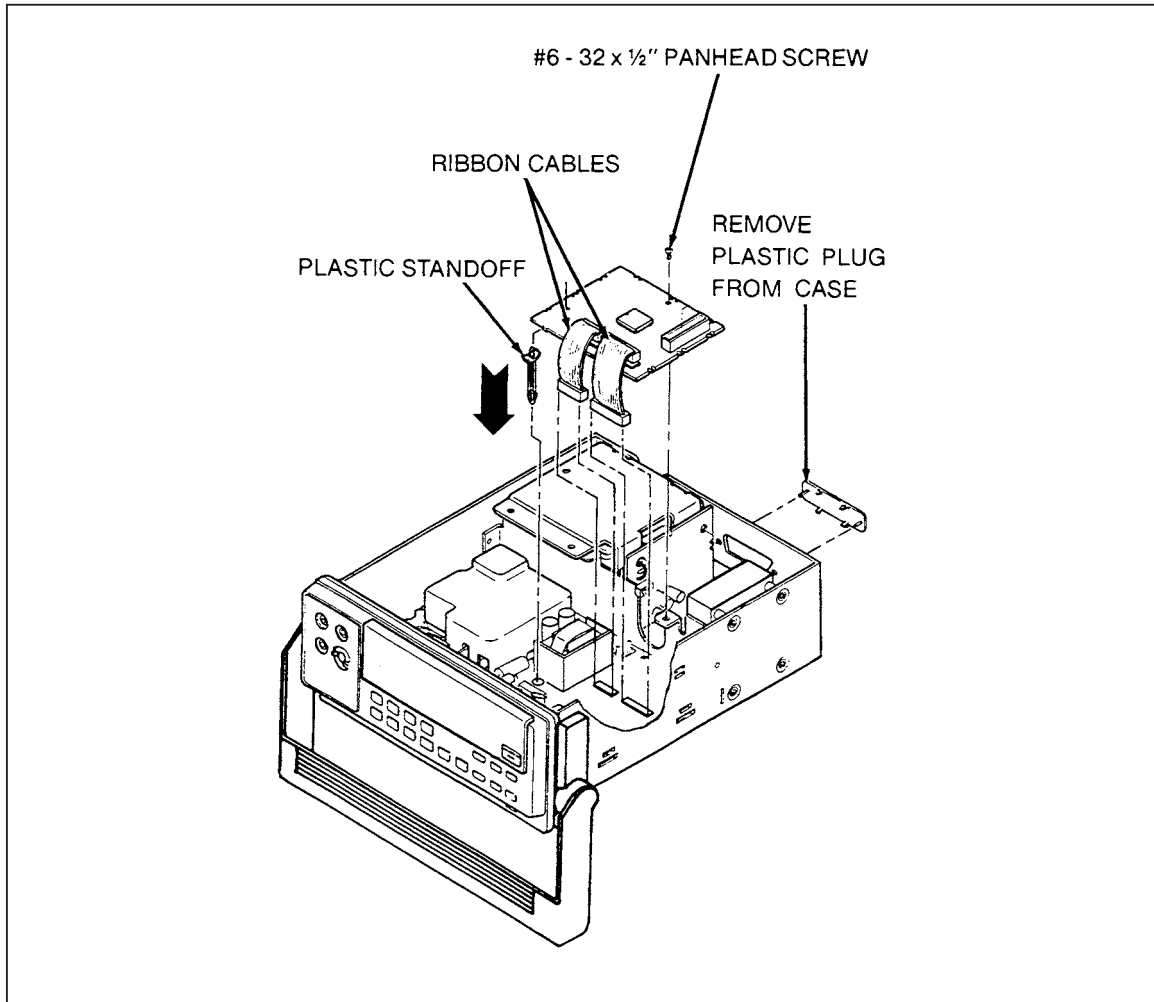

Figure 8-3. IEEE-488 Module Assembly
4. Refer to Figure 8-3 for the remaining steps. Remove the panhead Phillips screw at the rear of the IEEE-488 PCA.
2. Check that the plastic standoff remains in the appropriate hole in the meter PCA (narrow end of the standoff down; see Figure 8-3).